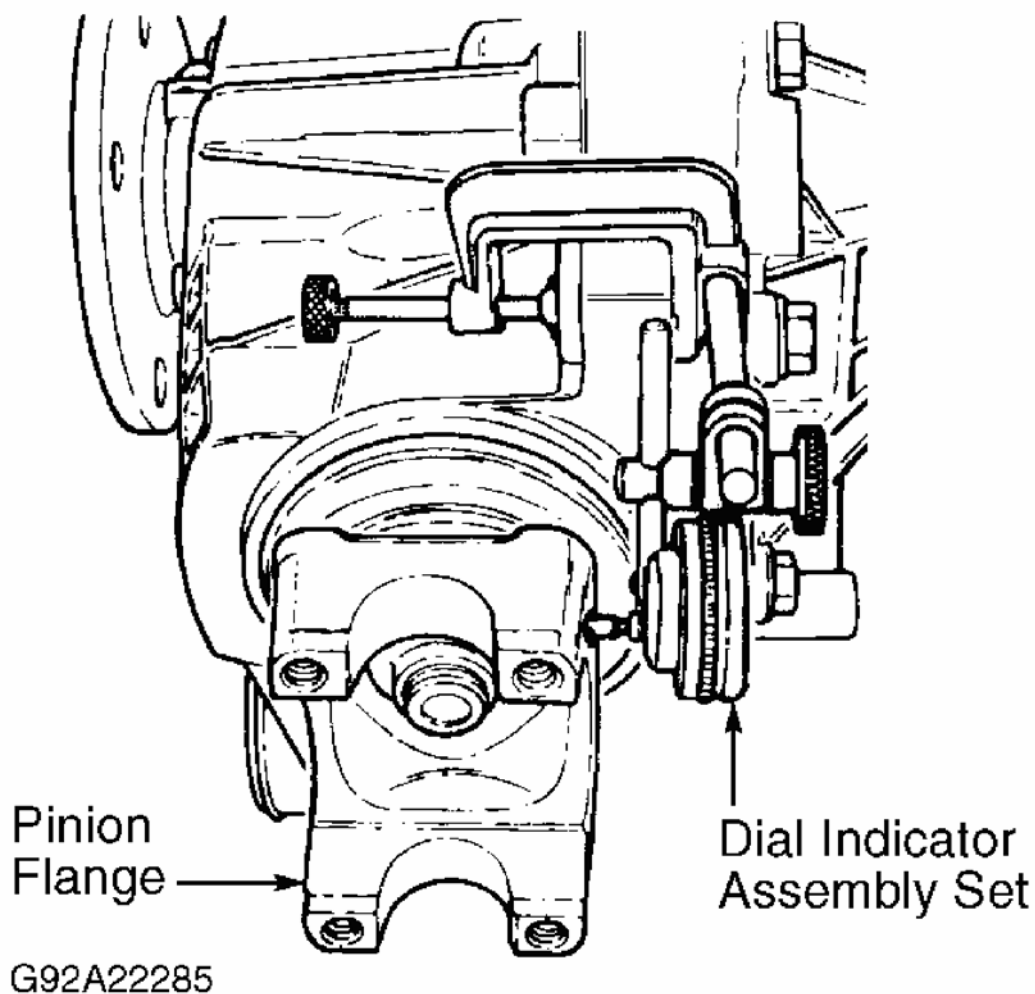

Fig. 18: Measuring Backlash At Pinion Flange
4. Mount base clamp of Dial Indicator Set (J-8001) so gauge plunger button contacts outer edge of pinion flange. Ensure plunger is at right angle to flange. See **Fig. 18** . Move pinion flange through its free play travel while holding differential carrier and ring gear stationary. Record dial indicator reading. Divide dial indicator reading by 2 to obtain backlash reading.